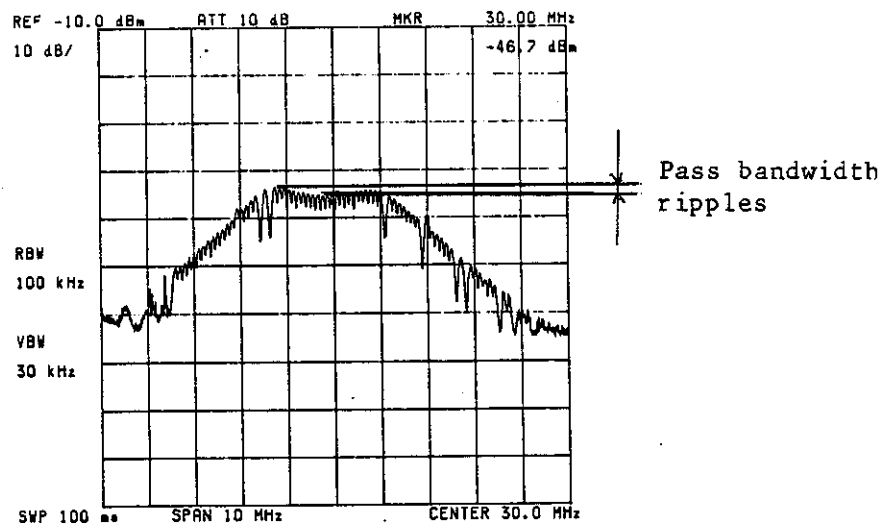

Fig. 11-54 30 MHz B.P.F. (two stages) adjustment
- (c) Press B, then change the Step FM setting with the DATA knob. Adjust C310 and C312 so the observed 30 MHz B.P.F. response (two stages) is centered around 30.00 MHz and its maximum level is attained. (See Figure 11-54.) A slight ripple within the pass bandwidth may be ignored.